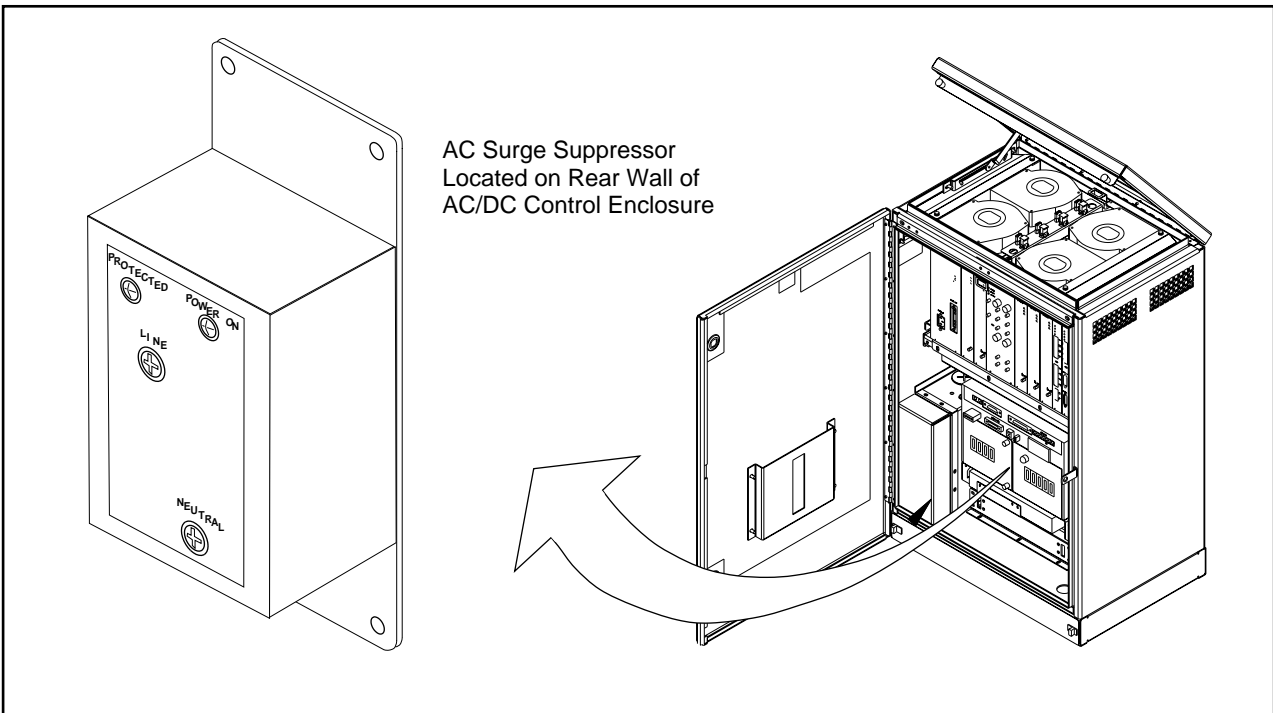

Figure 5-28. AC Surge Suppressor Assembly
5. Open the front of the AC/DC Distribution Box and locate the AC Surge Suppressor on the back wall. See Figure 5-28 on page 5-53.